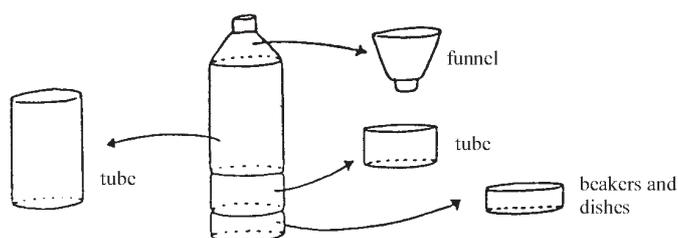

Figure 3.1: Improvising with a discarded plastic bottle.
- a discarded 750 ml plastic bottle can provide a funnel, dish, tubes, and beakers as illustrated in *Figure 3.1*